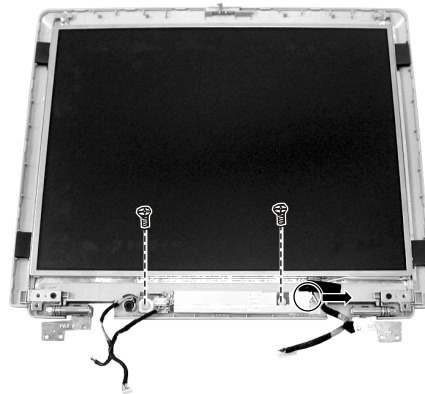

Figure 2-19 Remove the inverter board
2. To remove the inverter board on the bottom side of the LCD assembly, disconnect the cable and remove two screw. (Figure 2-19)